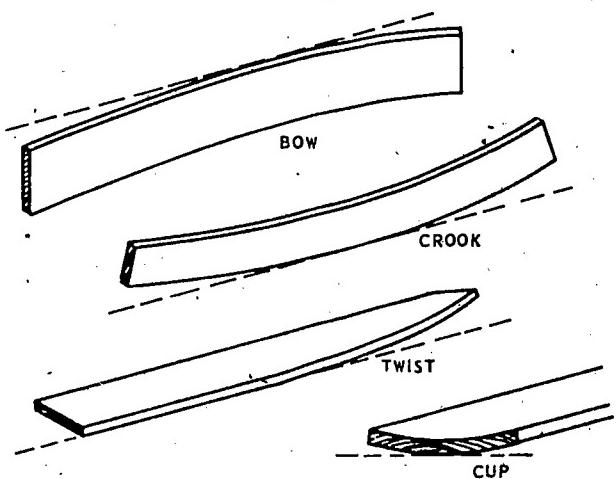

Fig. 4-16. Kinds of warp.
**WARP:** Any variation from true or plane surface. May include any one or combination of the following: cup, bow, crook, and twist (also called wind). See figure 4-16.